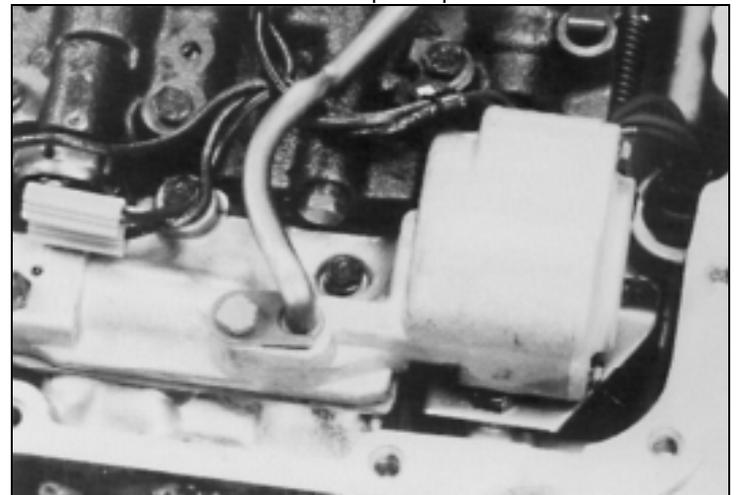

Figure 2
Step 6 Remove the auxiliary valve body. Most 700R4 transmissions now have this auxiliary valve body (**See Figure 2**). During the removal of auxiliary valve body, the check ball located inside will drop out. When reinstalling valve body, this check ball must be used (**See Figure 3**). Some 700R4 transmissions do not have this auxiliary valve body but came with a small support plate. If you have this type of 700R4 transmission, remove the four bolts holding the small support plate to the case at the rear of the valve body. Remove the bolt holding the detent roller spring assembly.